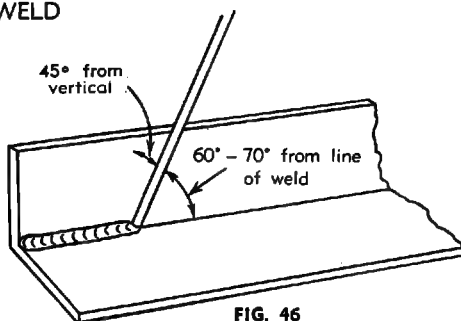
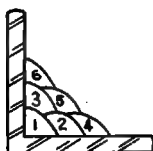

FIG. 46
FIG. 47
A piece of angle iron is a suitable specimen with which to begin, or two lengths of strip steel may be tacked together at right angles. Position the angle iron so that the two legs are at 45 deg. to the bench and run in a weld bead using a similar technique as for butt welds, using an 8-gauge VODEX electrode at 160 amps. When you are familiar with this, position another piece of angle iron with one leg horizontal and the other vertical. This is known as a horizontal-vertical (HV) fillet. Strike the arc and immediately bring the electrode to a position perpendicular to the line of the fillet and about 45 deg. from the vertical. Some electrodes require to be sloped about 20 deg. away from the perpendicular position to prevent slag from running ahead of the weld (see Fig. 46). Do not attempt to build up much larger than $\frac{1}{4}$ -in. leg length with an 8-gauge electrode, otherwise the weld metal tends to sag towards the base, and undercut forms on the vertical leg. Multi-runs can be made as shown in Figure 47. Weaving in HV fillet welds is undesirable.